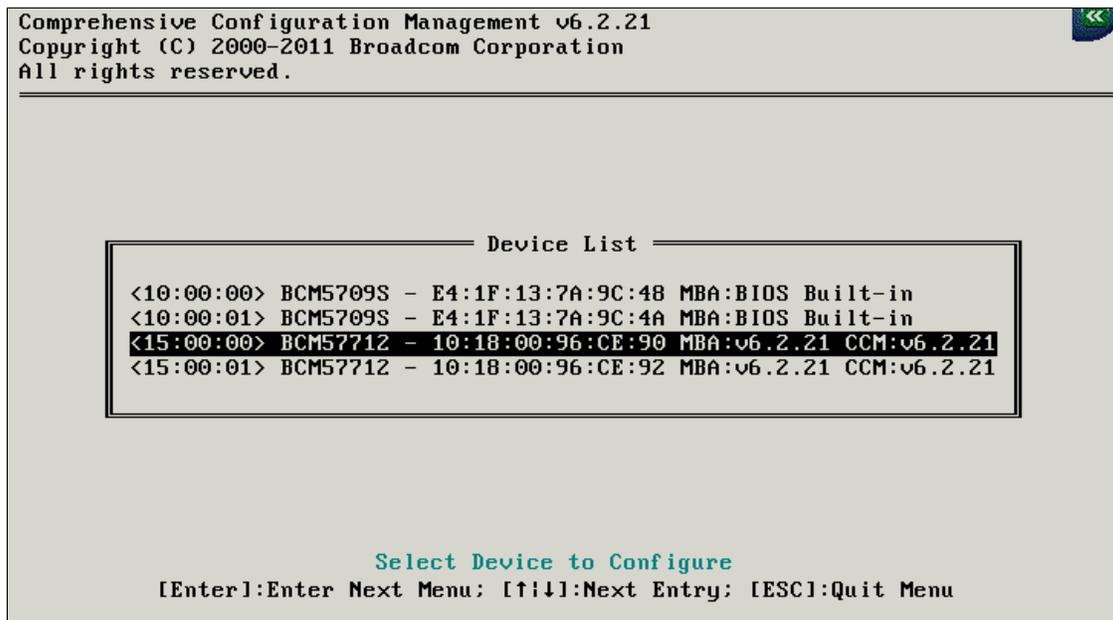

Figure 10-46 Network configuration panel
5. In the Network configuration panel (Figure 10-46), select the first of the two **Broadcom NetXtreme II 10 Gigabit Ethernet** entries, and press Enter.